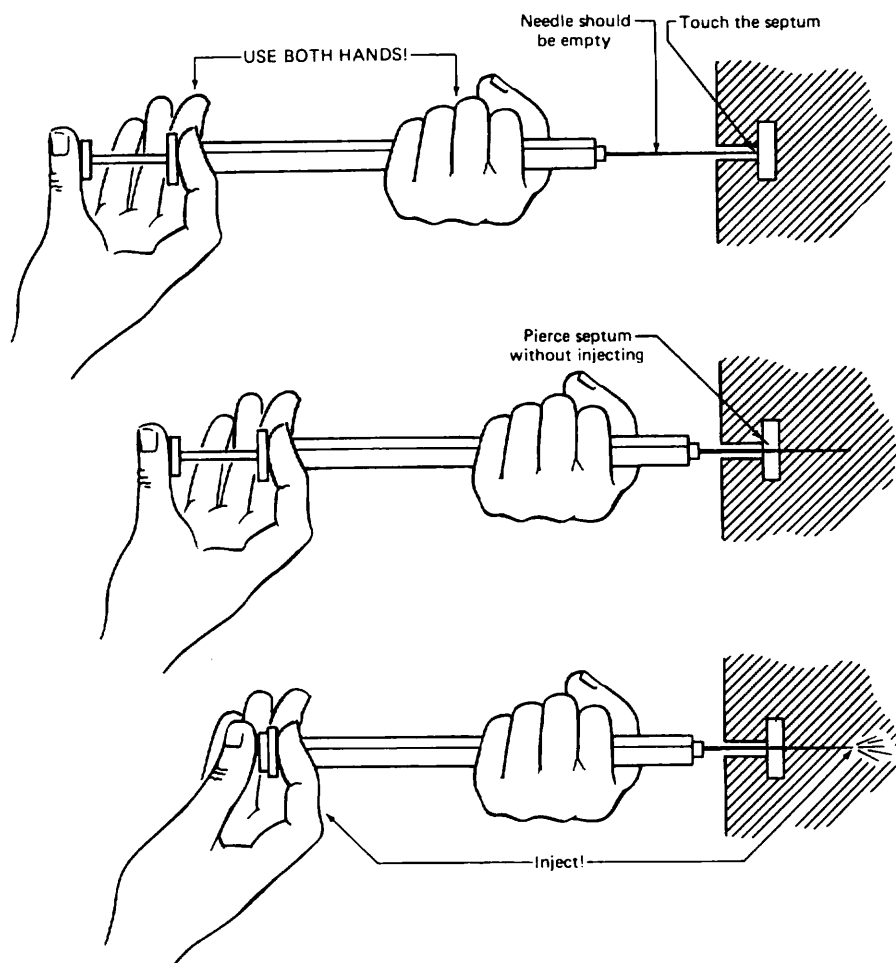

Fig. 139 Three little steps to a great GC.
2. Hold the syringe in *two hands* (Fig. 139). There is no reason to practice being an M.D. in the organic laboratory.